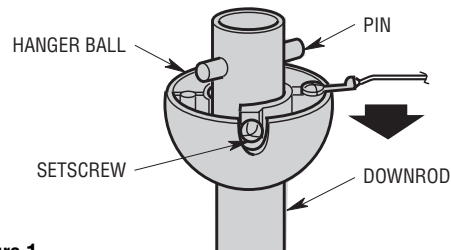

Figure 1
1. Remove the hanger ball by loosening the setscrew in the hanger ball until the ball falls freely down the downrod (Figure 1). Remove the pin from the downrod, then remove the hanger ball. Retain the pin and hanger ball for reinstallation in Step 5.